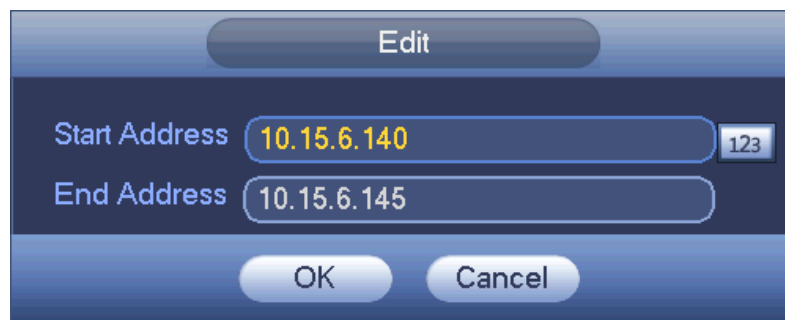

Figure 4-221
- Edit: Click it to edit start address and end address. See Figure 4-221. System can check the IP address validity after the edit operation and implement IPv6 optimization.